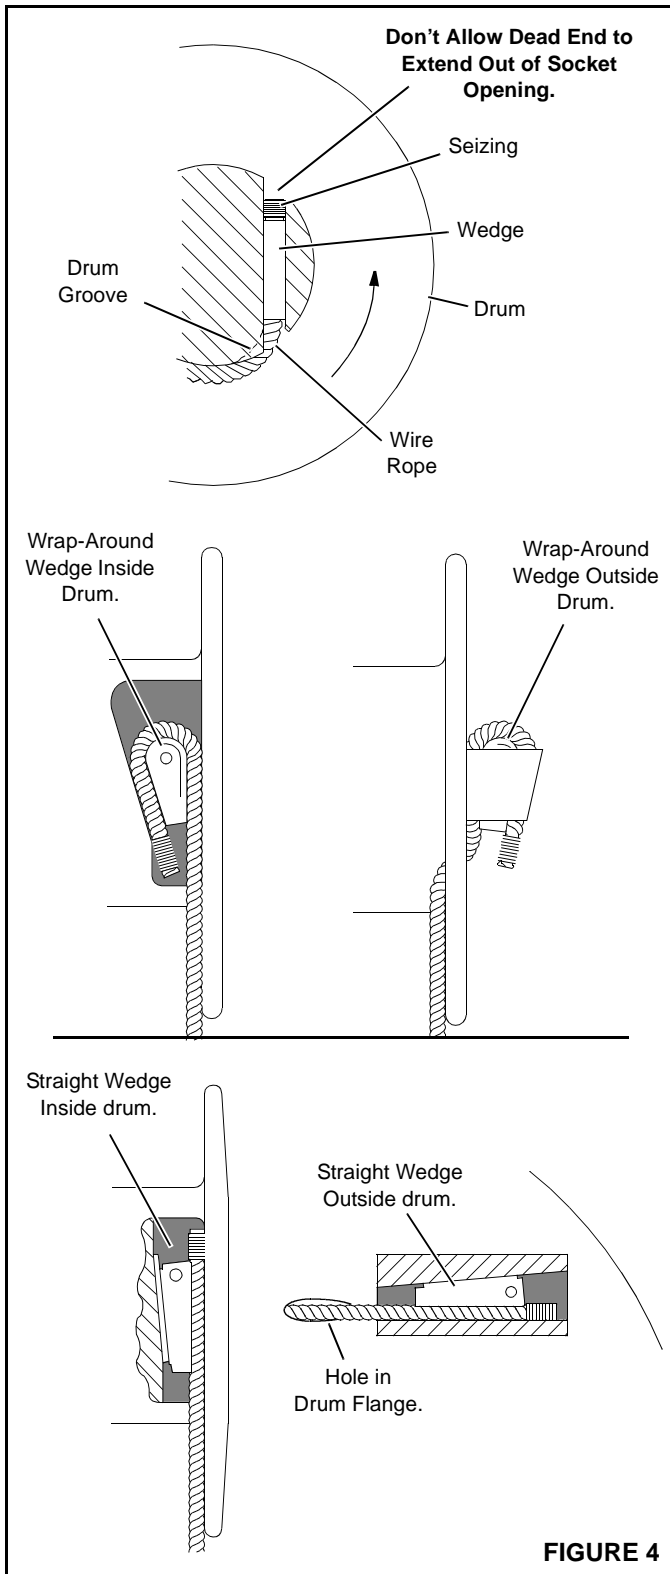

FIGURE 4
Refer to Figure 4.
1. Assemble wire rope and wedge to drum socket as shown in Figure 4.